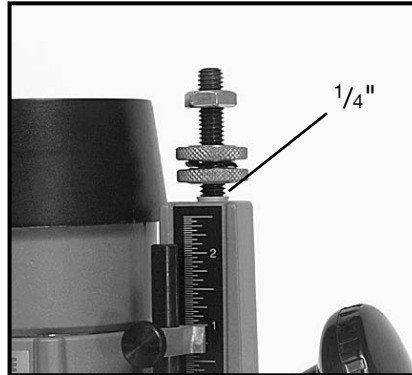

Fig. 13
7. Turn lower travel limiting nut until it is approximately $\frac{1}{4}$ " above the top of the plunge housing (see Fig. 13). While holding lower nut, turn upper nut until it "jams" against the lower nut.